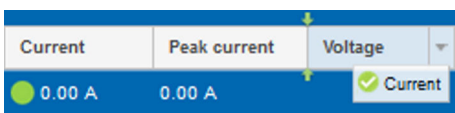

Fig. 96: Moving parameters
5. If necessary, click an individual parameter (e.g. "Current") and move it within the title line (Fig. 96).